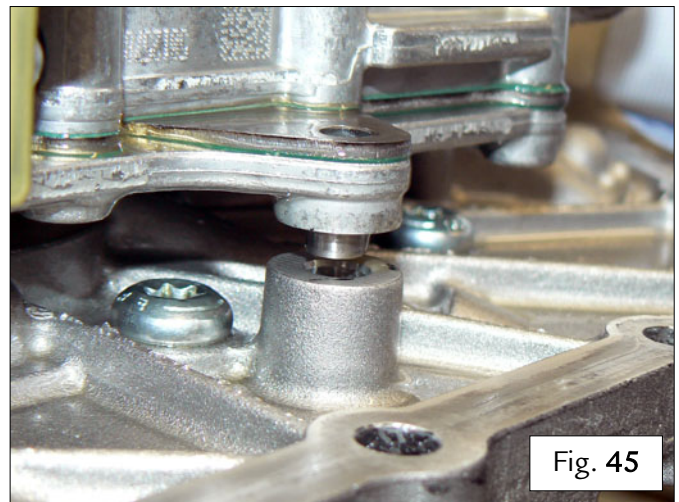

Fig. 45
- While installing the SAP, align the pins with the respective holes in the interface plate – Fig. 45.
- Bring the SAP into contact with the respective mounts – Fig. 45.